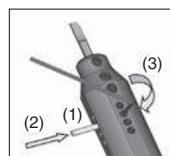
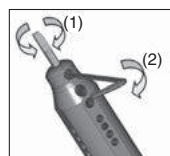

Fig.5 How to use adjustment pin
Fig.6 How to fix bar
- How to use adjustment pin (Fig.5)
- (1) Put the adjustment pin into the hole.
- (2) Push it into the sleeve, using the wrench (LW-1.5).
- (3) Tightening the clamp screw (HS3X4P) with wrench (LW-1.5) to fix the adjustment pin.
- How to fix bar (Fig.6)